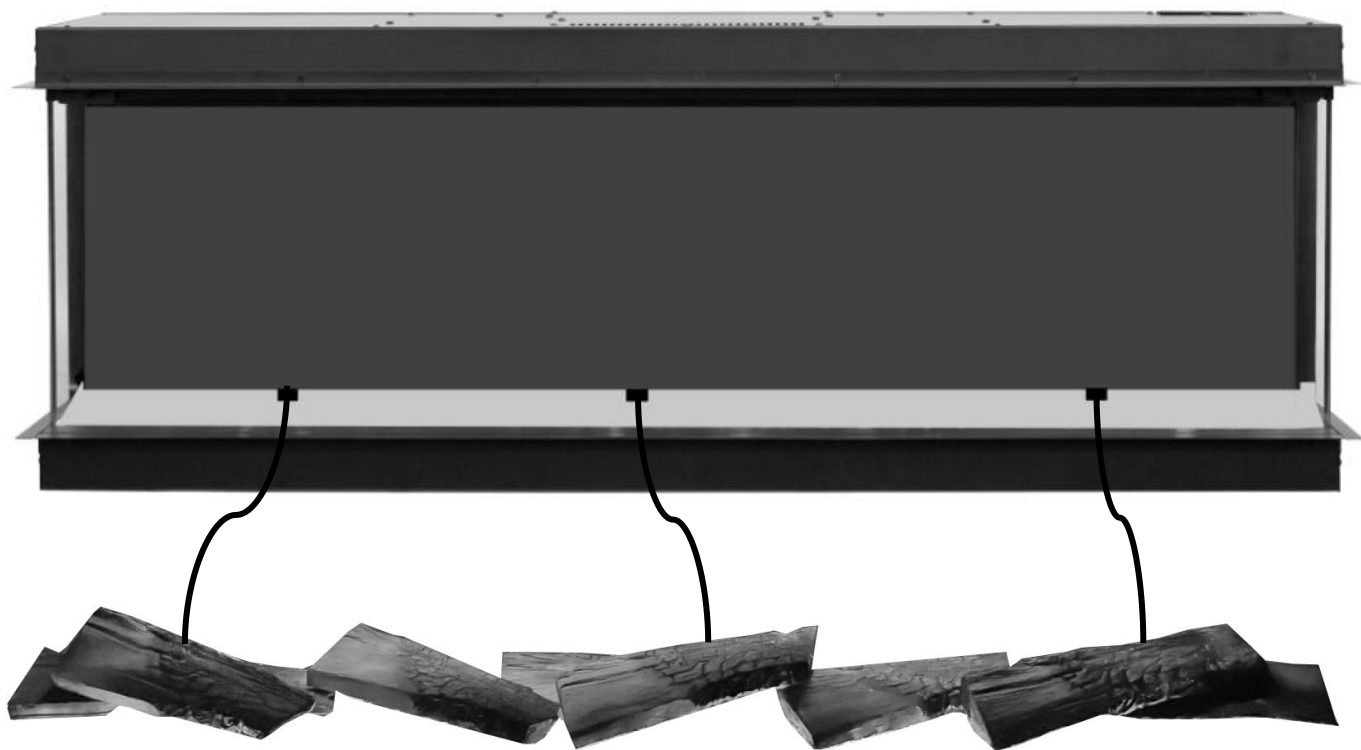

Fig. 4-1 (FOR EFS1300)
- B. Plug the Lit Log-set to the power connectors and try to settle all connecting wires to be invisible from front. **Fig.4-1**